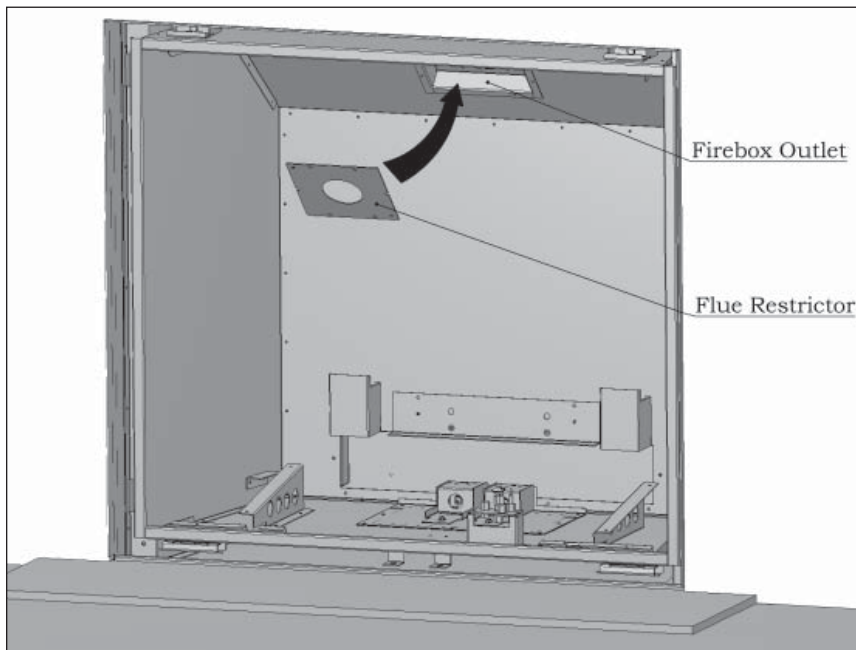

Figure 25: Installation of Flue Restrictor.
- 5) Using the two (2) ¼" T-20 screws provided with the restrictor, fasten the Restrictor into the Flue Outlet as shown in Figures 25 & 26. Make sure the diagonal holes line up with the diagonal holes located in the Flue Outlet Box. Use a powered driver to drive the screw in. Be careful not to over-torque the screw and strip the threads.